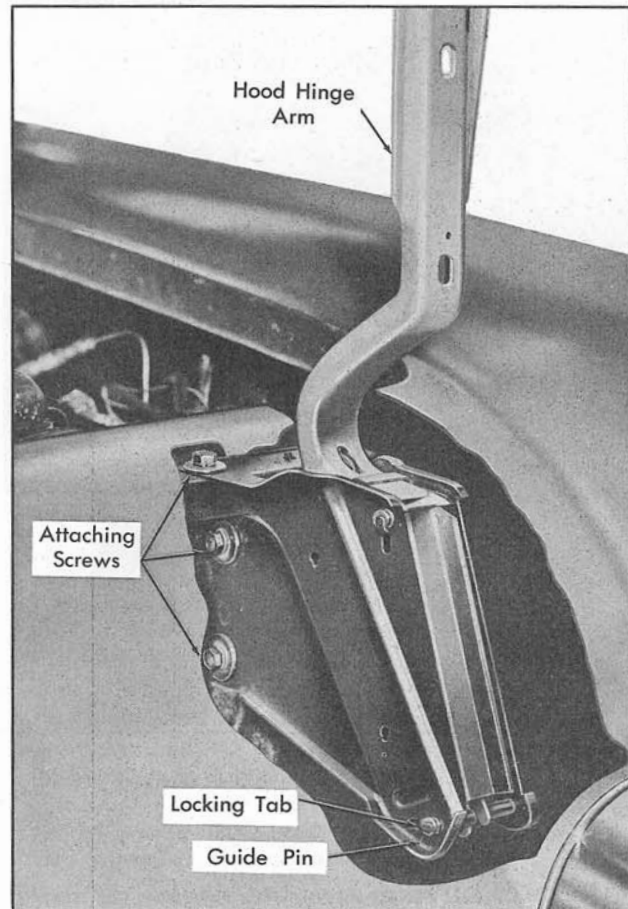

Fig. 16-3 Hood Hinge Removal
2. Remove four screws on side of hinge assembly and one screw holding assembly to radiator support, Fig. 16-3.
3. Bend locking tab away from lower pin on hinge assembly, Fig. 16-3.